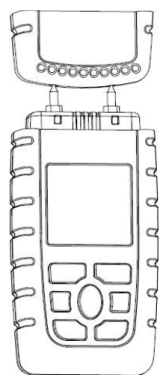

Figure 2-7-1
- The meter should display "Material 1" after turning on. If not, you should press "Material" button to choose materials 1. Use the meter to test the cover's test point as Figure 2-7-1. If moisture reading between 34.5%~35.5%. The meter's moisture function is good, otherwise it is NG. Please contact local distributors in time.